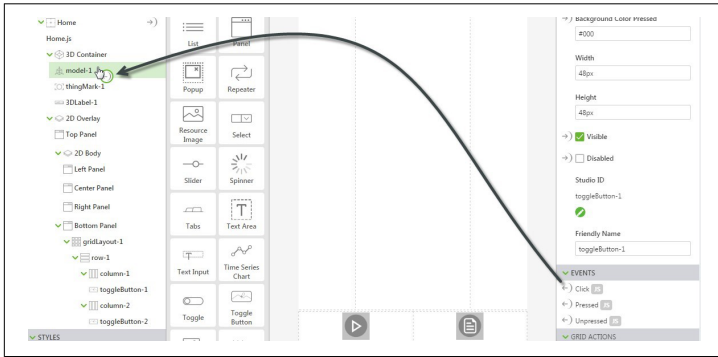

Figure 3-18. Dragging and dropping the Click event's binding icon onto model-1 in the project tree
2. In the PROPERTIES pane, scroll down to the Click event, and drag and drop the binding icon next to it onto model-1 in the project tree (Figure 3-18).